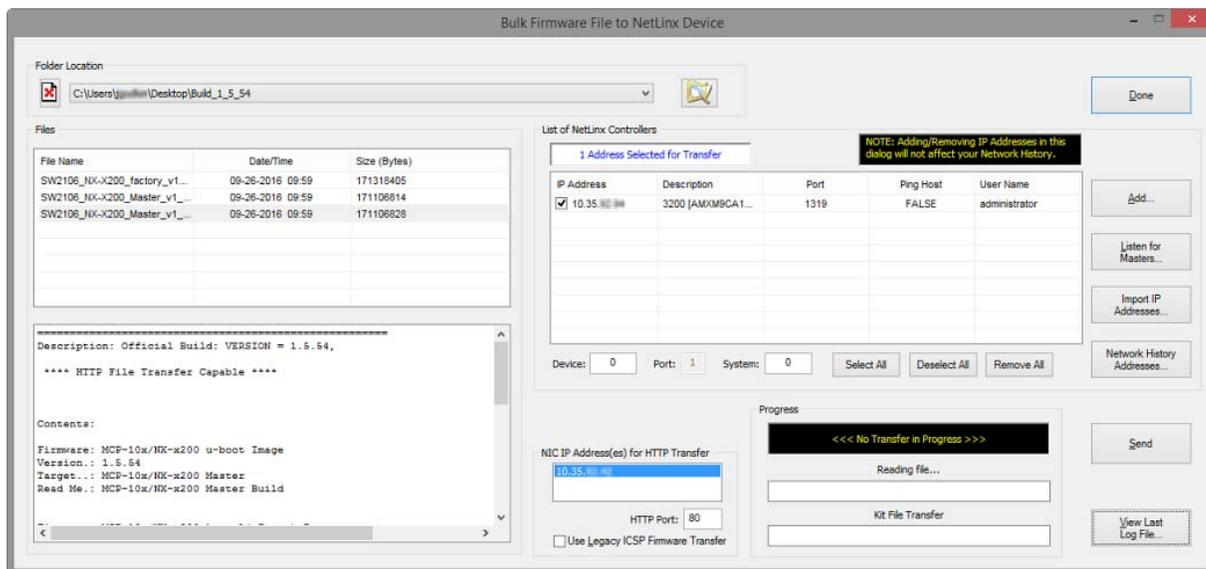

FIG. 27 Bulk Firmware File to NetLinX Device Dialog
1. In NetLinX Studio, select **Tools > Firmware Transfers > Bulk Firmware Transfers**. The Bulk Firmware to NetLinX Device dialog opens (FIG. 27).